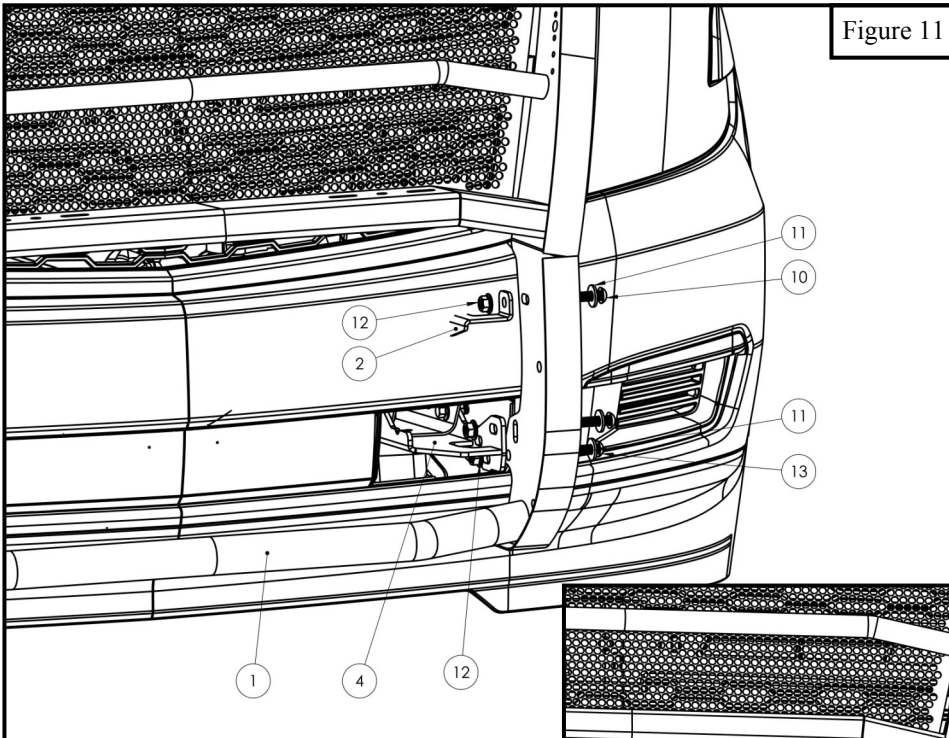

Figure 11
- Attach the Push Bumper to the Bottom Brackets using (4) M12 X 40 Hex Socket Button Head Screws (item 13), (4) M12 Cupped Washers (item 11) and (4) M12 Serrated Flange Nuts (item 12). Refer to Figure 11.
- Attach the Push Bumper to the Upper Brackets using (2) M12 X 35 Hex Socket Button Head Screws (item 10), (2) M12 Cupped Washers (item 11) and (2) M12 Serrated Flange Nuts (item 12). Refer to Figures 11 & 12.